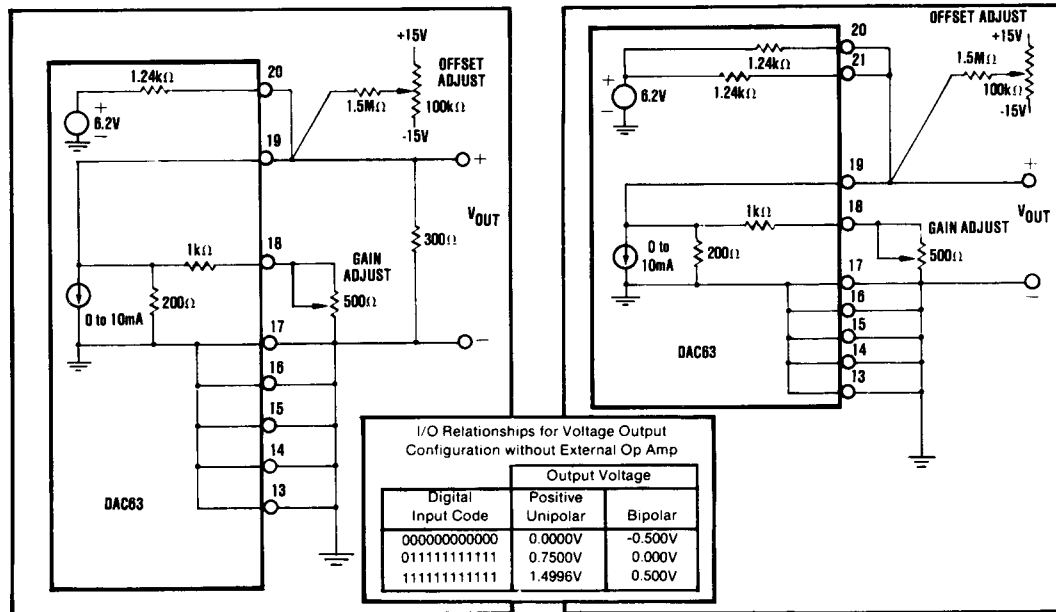

FIGURE 8. Bipolar Voltage Output Without External Op Amp.
NOTES: (1) Logic Input voltages and currents are dependent on the logic threshold voltage. The logic input values given in each column are correct for the logic threshold voltage given in that column. (2) When used with an external output op amp or when the internal impedances/resistors are used as the load. (3) FSR is Full Scale Range, which is 10mA for both the DAC63BG and DAC63CG. (4) Refer to Output Glitch section. (5) Refer to Figures 8 and 9.
For highest speed operation, the DAC63 should be used without an external op amp. Figures 8 and 9 show how to connect the DAC63 for bipolar and positive unipolar